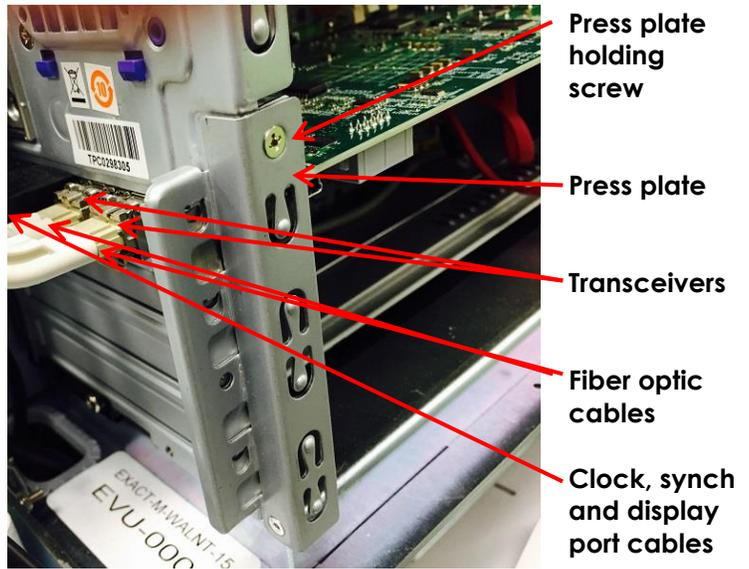

Figure 83: BCB Press Plate
9. Use the Phillips # 2 screwdriver to remove the press plate holding screw (refer to Figure 83).